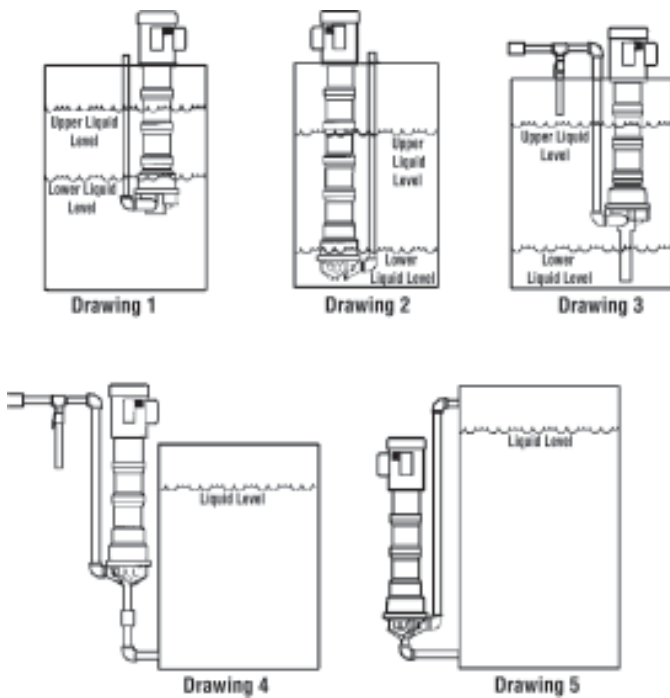

Figure 1
The VKC Series is a versatile pump designed to be operated in a variety of mounting configurations. The pump can be mounted either inside or outside of a tank or sump. See Figure 1.
6. If a check valve is installed in the discharge piping, an air bleed must be installed in the discharge line to prevent air lock. This allows air trapped in the pump internals to be removed on initial start-up. See drawings 3 and 4 in Figure 1.